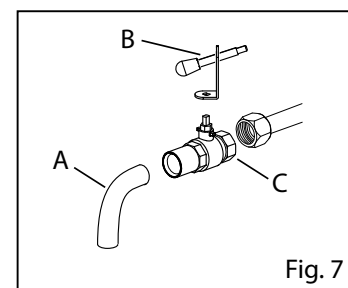

Fig. 7
- Disassemble the drain pipe (Fig. 7/A)
- Unscrew the oil discharge system (Fig. 7/B)
- Unscrew the valve (Fig. 7/C)